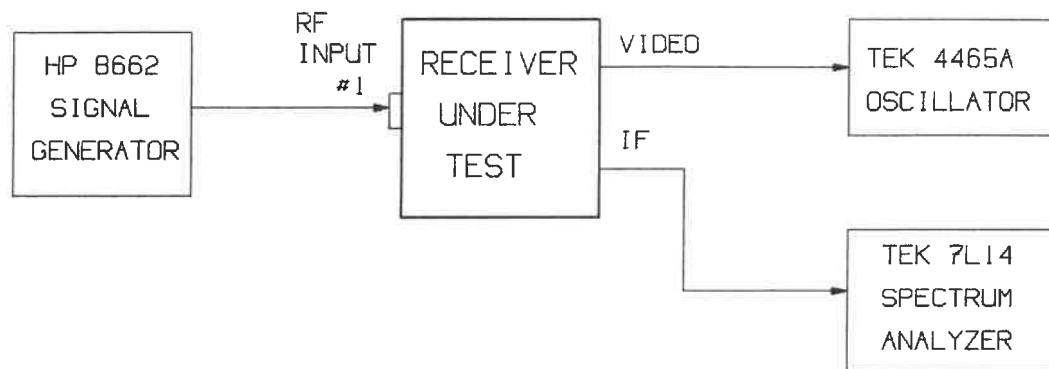

Figure 3 Basic Test Set-up
The basic set-up used for a major portion of the tests is shown in Figure 3. The HP 8662 Signal Generator is connected to the receiver's RF Input #1. The Tektronix 4465A oscilloscope is connected to the video output, and the Tektronix 7L14 spectrum analyzer to the IF output. Special test set-ups are used for the balance of the tests; these are described in the procedures.
- (a) Connect the receiver as shown in the basic test set-up (Figure 3) with the HP 8662 signal generator cabled to the RF Input #1 connector. Set the generator's frequency to 100 KHz and the amplitude to -30 dBm. Connect the storage oscilloscope's vertical axis to the video output, and its horizontal axis to the X-axis output. Adjust the controls to display 0 to 10 vdc on both axes.